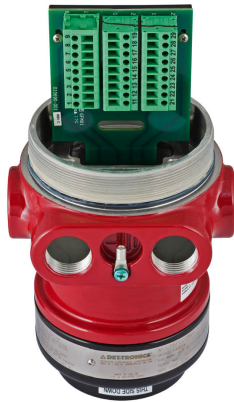

Figure 4—Detector Terminal Block
1. Make field connections following local ordinances and guidelines in this manual. Refer to Figures 4 through 12.